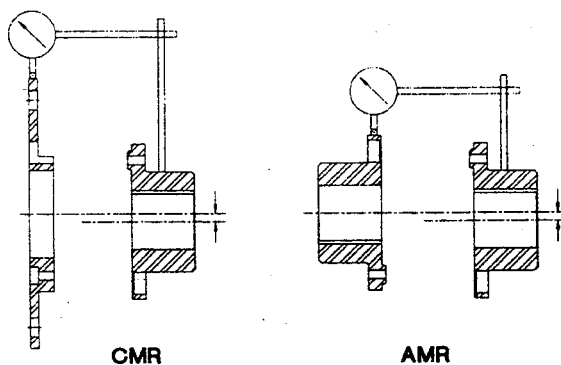

Figure 3
- D. Parallel Offset.** Rigidly mount a dial indicator on one hub or shaft, reading the other hub flange or flywheel adapter outside diameter, as shown in Figure 3. Compensate for indicator set-up sag. Rotate both shafts together. Adjust the equipment by shimming and/or moving so that the indicator reading is within .002 inch per inch of the axial length between flex elements. See Chart (A).